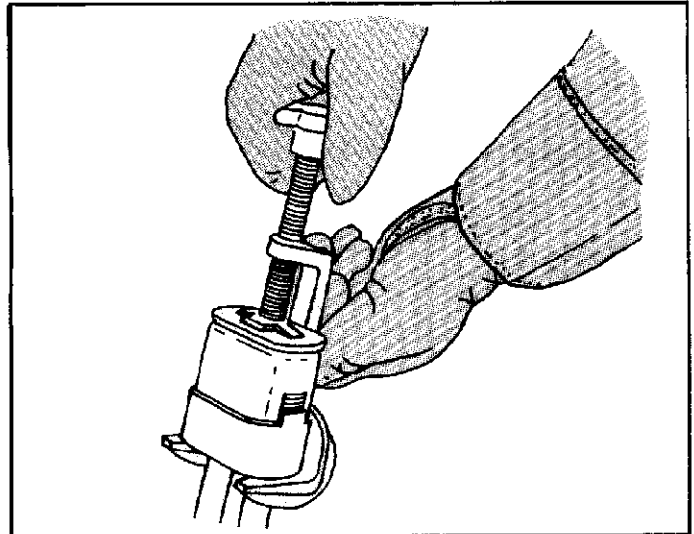

Figure 12
- (j) Attach cover-closing tool, catalog number 69882, and turn knob clockwise to close cover, as shown in Figure 12.